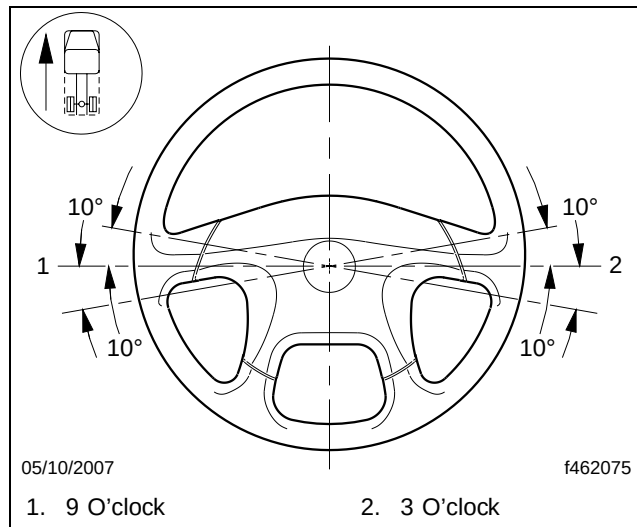

Fig. 12, Steering Wheel Centered
38. Make sure that the steering wheel is within 10 degrees of center as shown in **Fig. 12**. If it is not, remove and center the steering wheel.